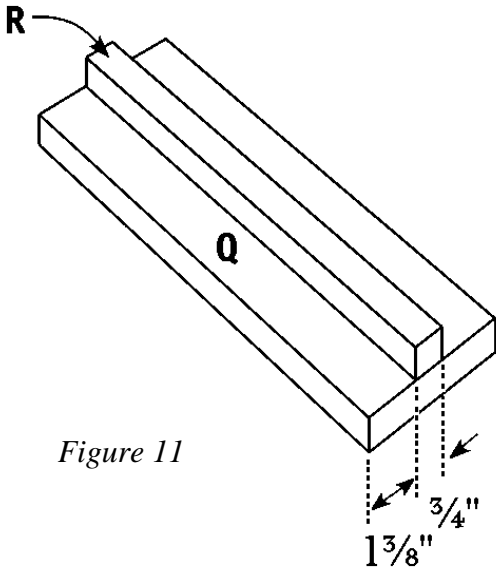

Figure 11
1. Cut five Stem Supports (Q) from 1 x 4 pine, each measuring 10 inches.
2. Cut five Connectors (R) from 1 x 1 pine, each measuring 10 inches.
3. Cut two Frame Supports (S) from 1 x 4 pine, each measuring 31 inches.
4. Apply glue to the meeting surfaces, and center one Connector (R) lengthwise over one Stem
Support (Q), as shown in *Figure 11*. Nail through the Connector (R) into the Stem Support (Q) using four evenly spaced 1-5/8" wood nails.